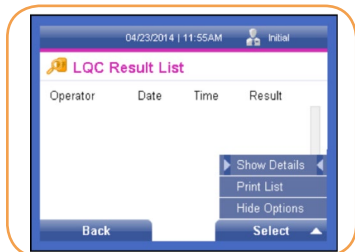

FIGURE 80
- Press the right soft key to view options available under the *LQC Result List* screen. The Options menu is displayed (Figure 80).